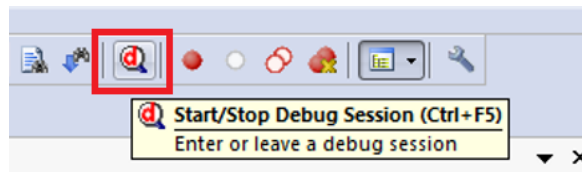

Figure 1.6: Keil IDE: Start/Stop Debug Session Button
(see Figure 1.6).
7. Click the Start/Stop Debug Session button or press Ctrl-F5 to exit from the simulator (see Figure 1.6).
4. Click the Start/Stop Debug Session button or press Ctrl-F5 to enter a debug session (see Figure 1.6). This target uses the hardware ULINK2/ME Cortex Debugger. Note you should not click the Download button to load the code to the board. When you start a debug session, the debugger initialization file (i.e. `RAM.ini`) will execute the `LOAD` command to load the code to the board.
7. Click the Start/Stop Debug Session button or press Ctrl-F5 to exit from the debug session (see Figure 1.6).